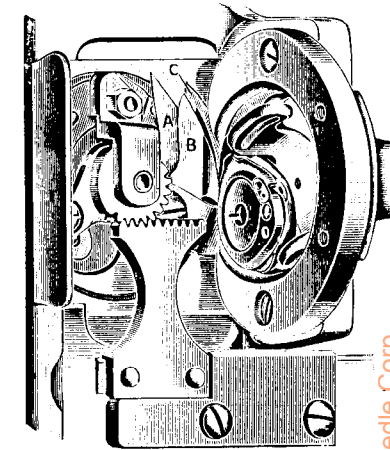

FIG. 20
Fig. 20 shows the position of the thread cutting knives A and B, and the barbed spring (C), at the instant of cutting the threads; A is the shuttle thread knife and B the needle thread knife; there is an immediate slight retraction from this cutting position, owing to the recovery by the parts from the overthrow which causes the knives to cut the threads.